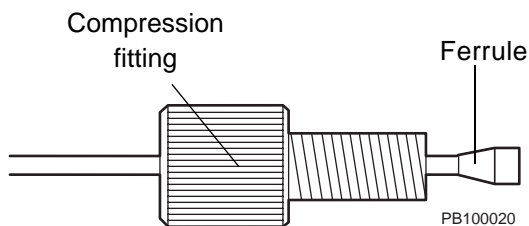

Figure 3-5 Connecting Low-Pressure Plastic Fittings to Tubing
- Low-pressure plastic fittings (Figure 3-5)
1. Slide the plastic compression fitting over the end of the tubing (Figure 3-5).
2. Slide a plastic ferrule over the end of the tubing with the tapered end toward the compression fitting. Use a yellow ferrule with 1/8-inch tubing. Use a blue ferrule with 1/16 inch tubing. Make sure tubing is flush with the ferrule (Figure 3-5).